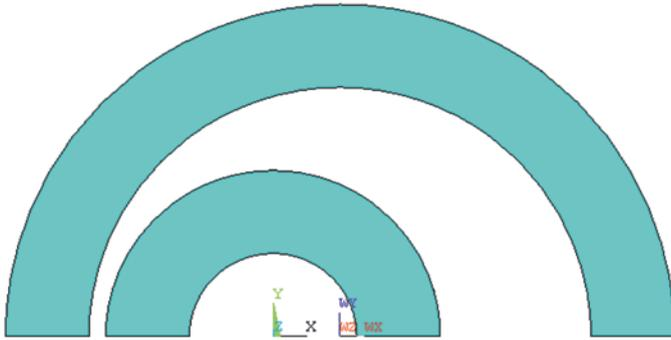

Fig. 9.65 Area plot for the conical fin
- The areas appear in the *Graphics Window*, as shown in Fig. 9.65.